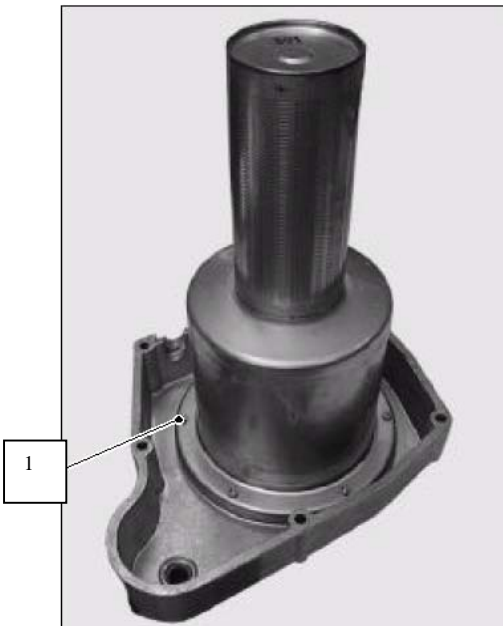

Fig 12
- 6 To remove the burner from the condensate collector unscrew the Allen Key screws D (Fig. 12).